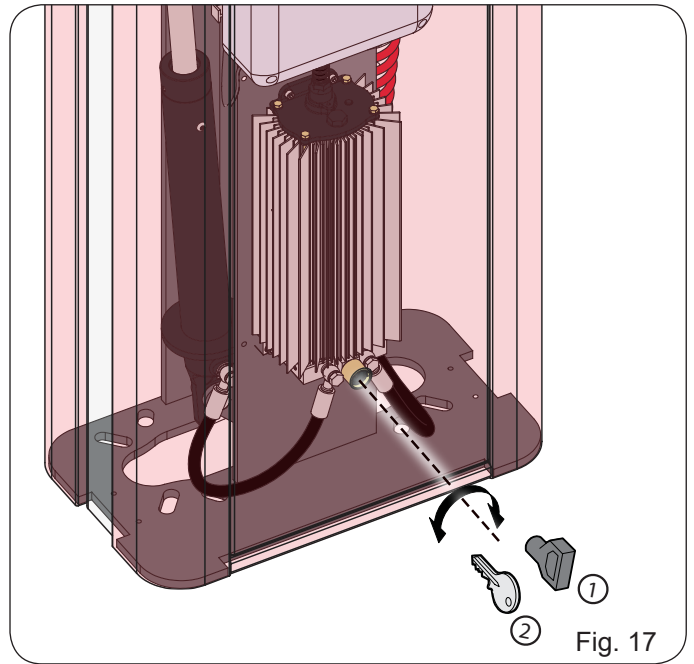

Fig. 17
Should manual operation of the barrier be required due to power outage or malfunction, the manual release device can be operated with the supplied key. The key is either triangular (Fig. 17 ref. ①) or customised (Fig. 17 ref. ②) optional.
- Insert the key in the lock and turn it **all the way counter clockwise** until it clicks into place, as shown in Fig. 17
- (Fig. 17 ref. ①) standart triangular key
- (Fig. 17 ref. ②) optional metal key